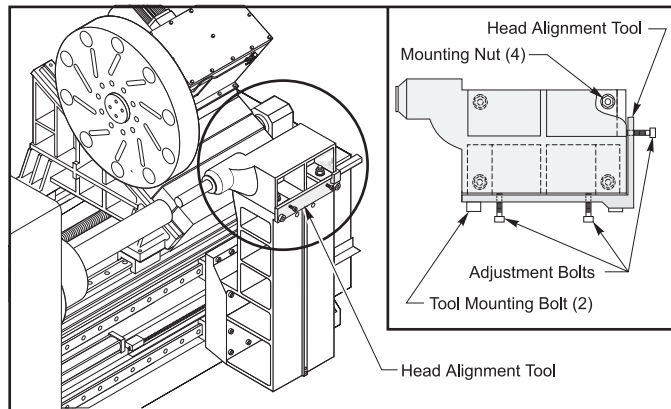

Figure 3-15
7. Measure flatness from base to end of tailstock. Add or remove shims if necessary using the tailstock head alignment tool. To adjust the number of shims, bolt on alignment tool, snug alignment bolts against the tailstock head, then remove the tool (Figure 3-15). Loosen either the front or rear pair of tailstock retaining nuts and add or remove shims as necessary. This will keep parallelism. Re-tighten the nuts. If necessary loosen the other end to add or remove shims as well. To re-align, install the alignment tool and position the tailstock against the adjustment bolts of the alignment tool. Snug the tailstock nuts and remove the tool.